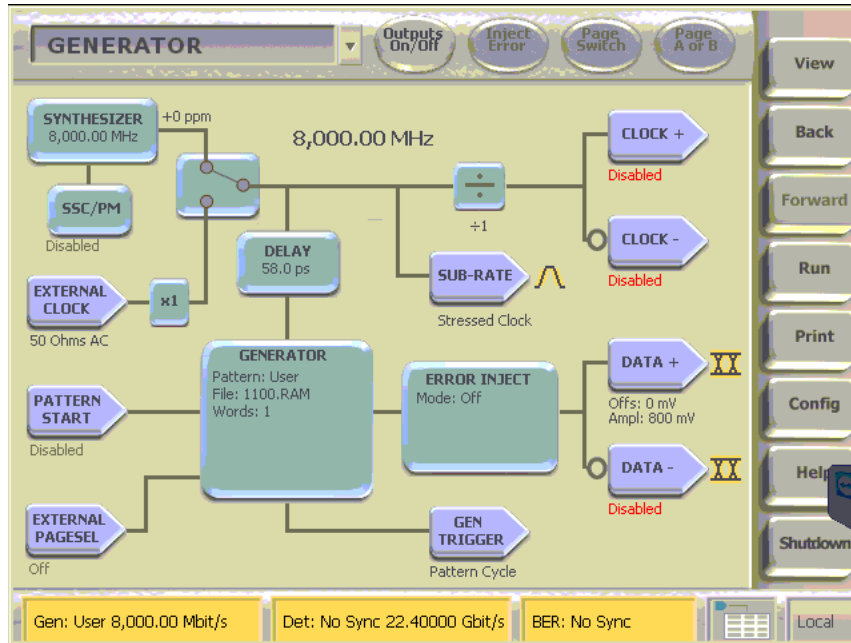

FIGURE 47. BERTSCOPE PATTERN SETUP
- Set the Pattern of generator to 1100.ram (1-1-0-0 pattern). See Figure 47.